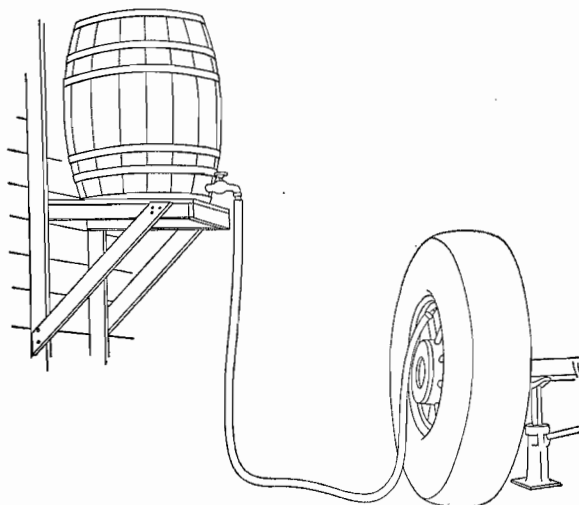

Fig. 25.
1. Gravity; attaching hose adapter to valve and from a level at least five feet higher than valve stem, allowing liquid to run into tube. (See Fig. 25.)